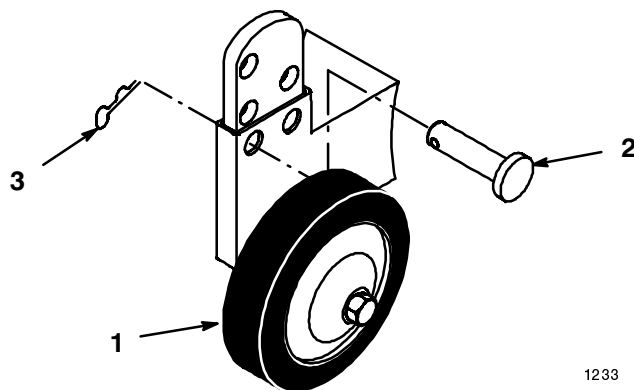

Figure 27
2. To adjust wheel height off the ground, remove the hairpin cotter and pin to change hole location (Fig. 27).
3. Select a hole position so the wheel is approximately $3/8$ " (9.5 mm) off the ground for the height-of-cut position to be used (Fig. 27).